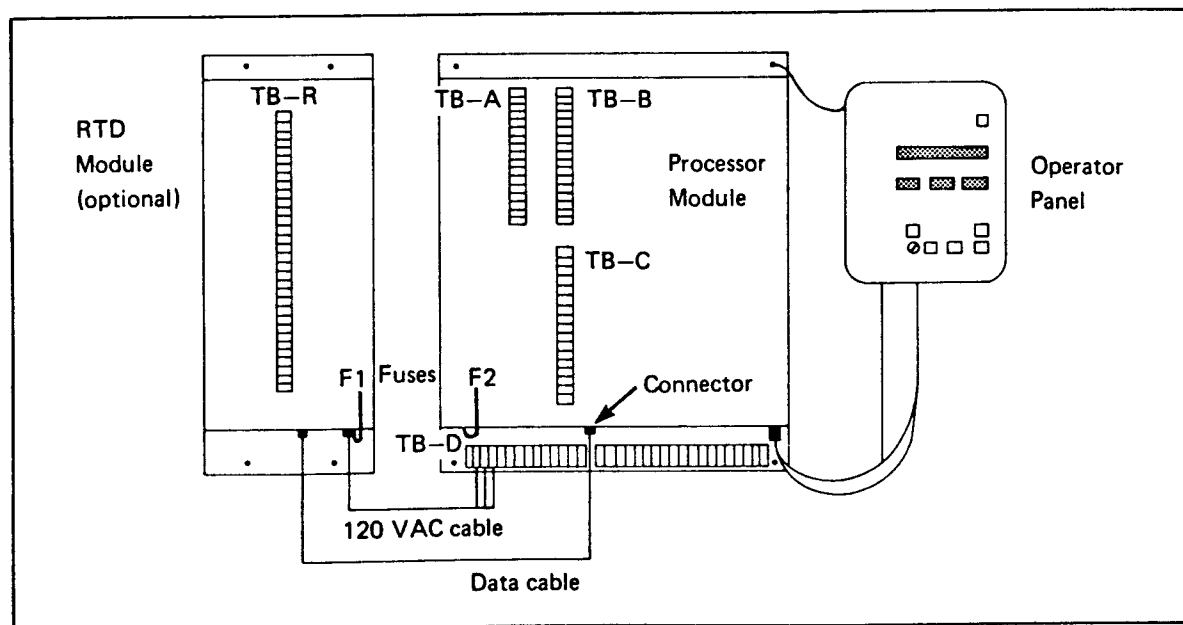

Figure 8.1 — Processor and RTD Module
Step 3 — Verify that all wires connecting to the terminals of the terminal blocks TB-A, TB-B, TB-C and TB-D are marked and that it is apparent which designations relate to which terminals. (See Figure 8.1.)
Step 6 — Remove the optional Data Cable Connector from the Processor Module. (See Figure 8.1.)
Step 3 — Verify that all wires connecting to the terminals of terminal block TB-R are clearly marked and it is clear which terminal relates to the designations. (See Figure 8.1.)